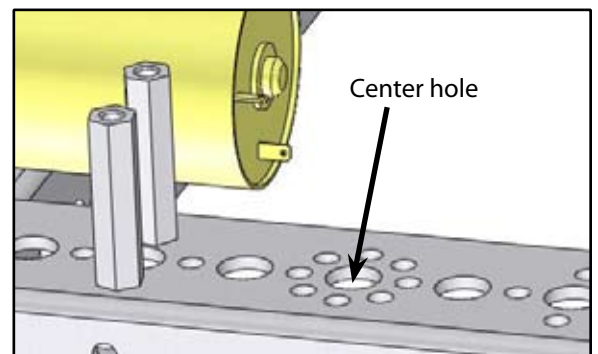

Figure B13
- Determine where you need to place the pivot. This will be the center of this pivot configuration. Count over three large holes to one side of the center. With two 5/16" SHCSs, attach two stand-off posts on top of the chassis so they are parallel to each other (Figure B13). Whether you use 1" or 2" stand-off posts depends on how tall you want the pivot to be.